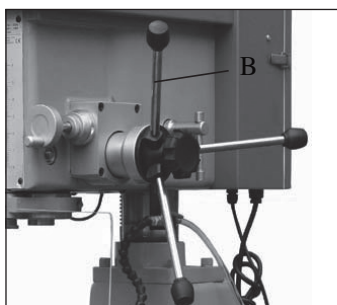
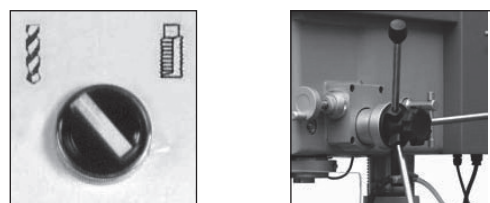

Fig. 5
Fig. 5.1
1. Grab the lever handle knob (B-Fig.5) and pull down.
3. Use the lever handles (B-Fig.5) to control the ascent when raising the spindle.
7. Use the spindle down feed levers (B-fig.5) to bring the tip of the drill to the surface of the work piece and hold.
13. Use the depth handle(B-fig.5) to lower the milling tool to the work piece and lock into position by rotating its depth lock knob (O-fig. 5.1). The depth stop is now fixed at zero..
- Use the depth handle (B-fig.5) to bring the tip of the drill bit to the surface of the work piece and lock the quill with quill lock handle (R-fig.8).
- Use the depth handle (B-fig.5) to bring the tip of the tapping bit to the surface of the work piece and lock the quill lock handle (R-fig.8).
- 1.Lower the spindle about 100mm and lock by using the quill lock 5.3(R) or the lock knob (O-fig.5.1) of the down feed levers.